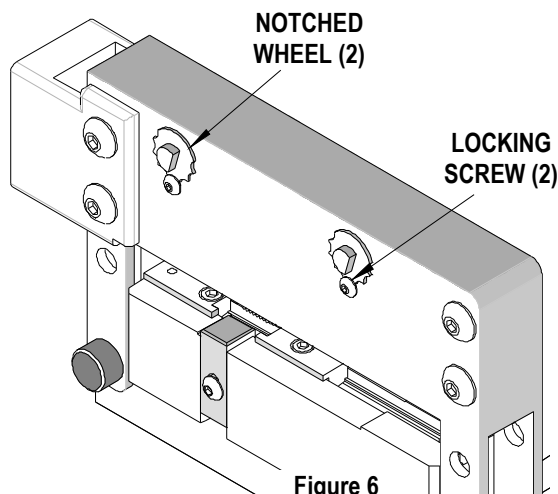

Figure 6
1. To adjust the termination height, remove the two (2) screws that lock the notched wheels on the backside of the power adapter.
2. Turn the two (2) wheels, shown in Figure 6 an equal amount. Clockwise to decrease the termination height, or counterclockwise to increase the height. One (1) notch is .05mm (.002"). See drawing SD-87568-003 for details.
3. When the correct height is achieved, replace the two (2) locking screws.